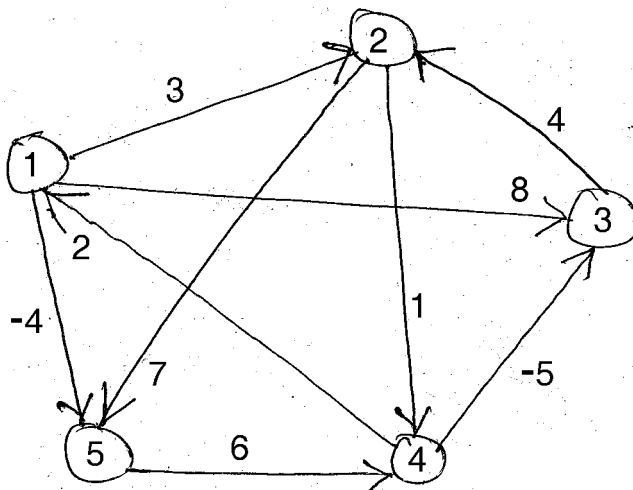

Fig 1
- B) Compute all pairs shortest path lengths for the following graph in fig. 1 6